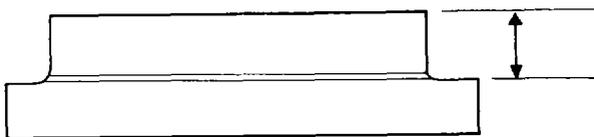

Figure 239 — Intake Valve Seat Measurement
- g. Measure the height of the intake valve seat using a micrometer depth gauge as shown in Fig. 239. If the height is less than 6.86 mm (0.270 in.) replace the intake valve seat.